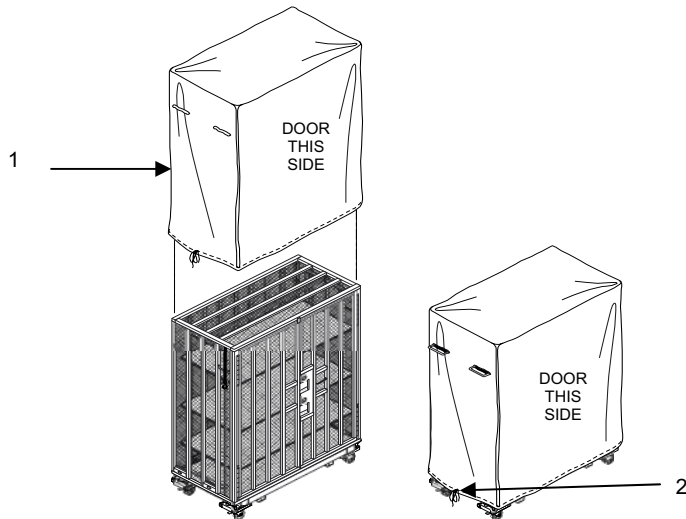

Figure 3-24. Placing the Tarp over the HVASC.
11. Place the tarp (Figure 3-24, Item 1) on the HVASC and tighten the draw cord (Figure 3-24, Item 2).